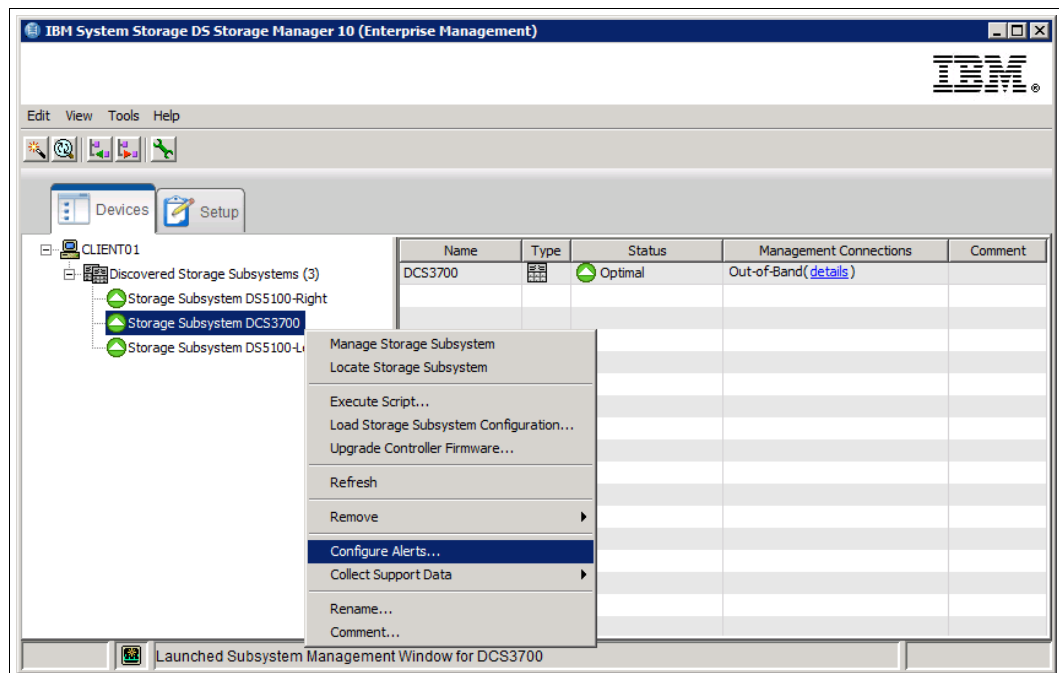

Figure 5-13 Configure Alerts for a particular subsystem
- ▶ If you can see the same storage subsystem through separate paths, directly attached, and through different hosts running the host agent, you receive multiple alerts. Right-click a specific storage system to define the alerting specifically for this storage server, as shown in Figure 5-13.